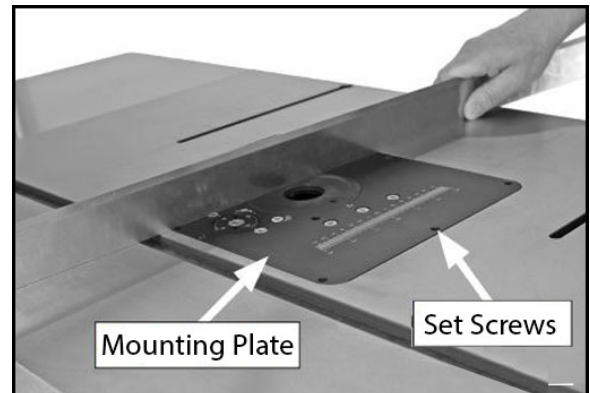

Figure 64
5. Adjust the set screws (Fig.64) in the insert plate as necessary so that the straightedge lies flat on the table surface at all positions of the pattern.